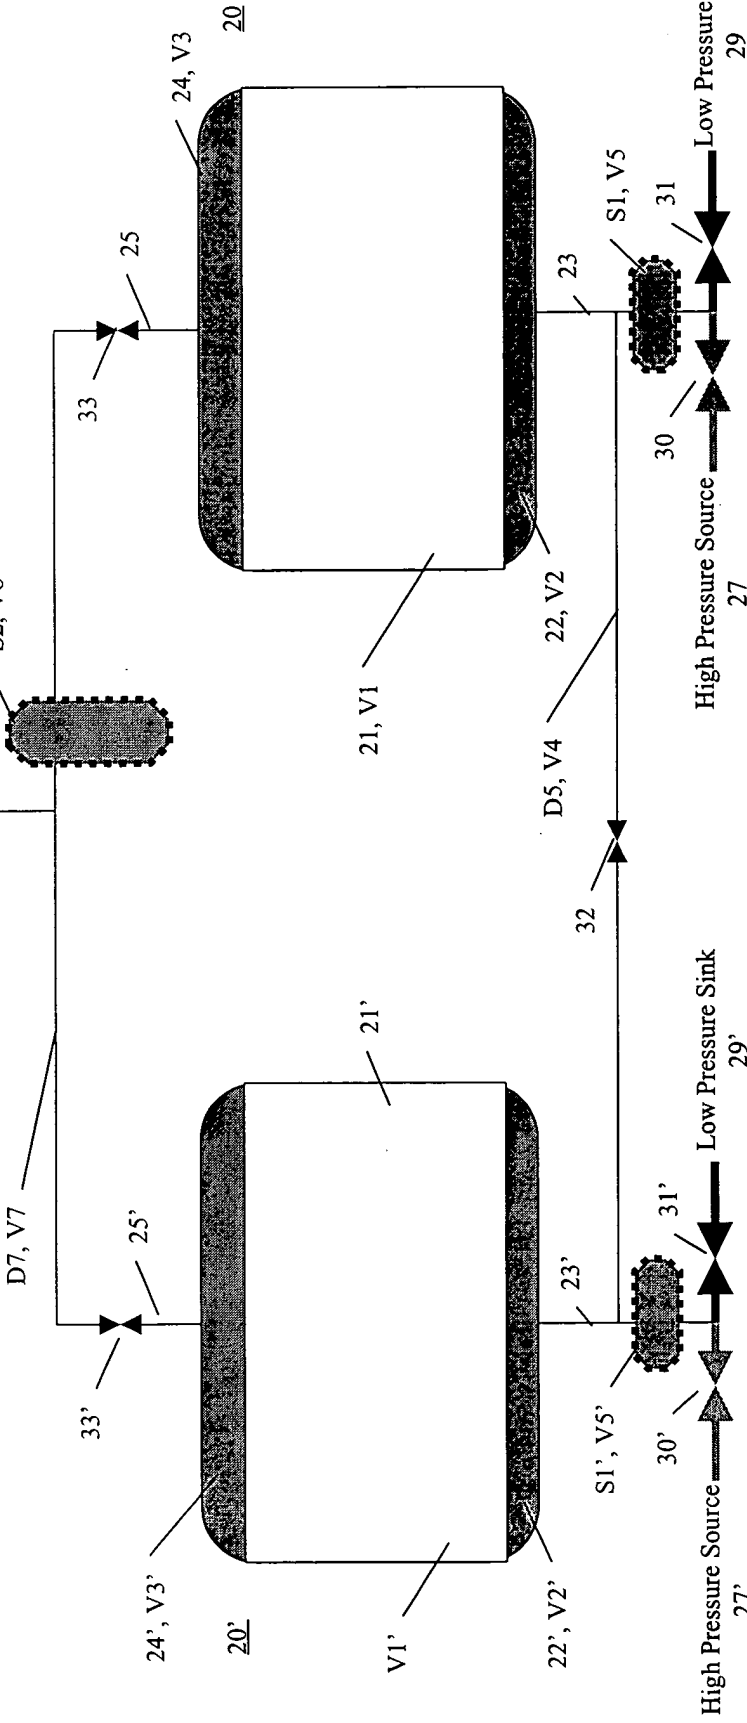

Figure 2b. Invention: Two Bed with Low Void
- Case B: The instant invention, reduced distribution pipe void volume as shown in Figure 2b.